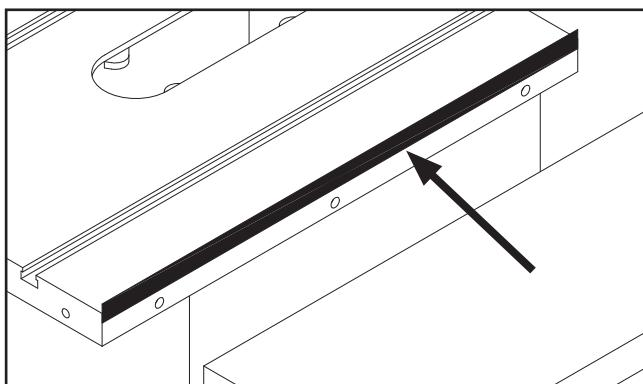

Figure 19. Masking tape location for tilting extension wing down.
- If outside end of extension wing tilts up, remove wing and place a strip of masking tape along top edge of main table to shim end of extension wing down (see **Figure 19**).